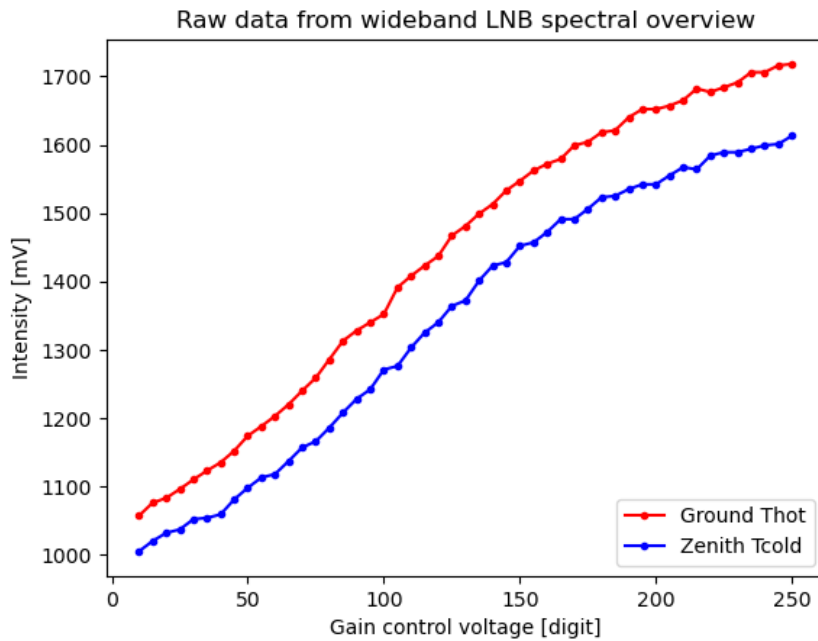

Fig. 14: Raw data of gain-sweep wideband LNB with two sources, Thot from ground and Tcold from sky.
13. Perform a gain-sweep to find out best gain-setting of the spectrometer, using Python scripts callisto_gain_sweep.py and Plott_GainSweep.py. For hot point telescope to ground (azi0, ele-50) and for cold move telescope to cold sky (azi0, ele35). Find best gain and edit callisto.cfg parameter [agclevel]=120 for examples, see appendix, figures 14 and 15.
Fig. 14: Masked data with full view to the sun between 07:30 UT and 11:30 UT. Red lines denotes to an approximation of the hot-calibration peaks every 15 minutes while looking to the ground at about 300 kelvin. Blue plot denotes to a fit to the cold calibration peaks every 15 minutes. This allows to detrend thermal changes of instrument-offset and -gain.